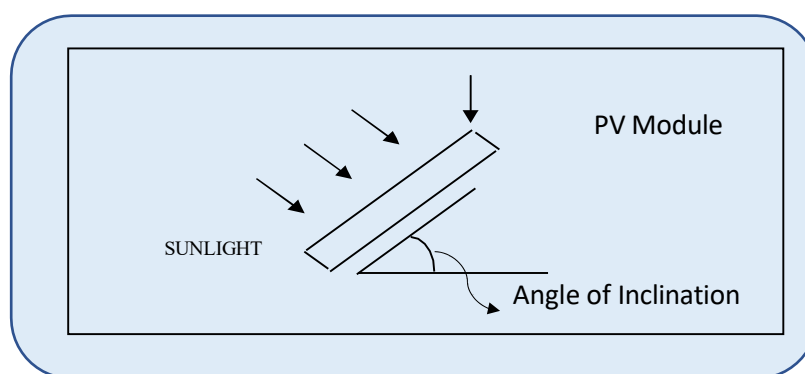

Fig. 6.1 Tilt angle
- C. Installation inclination refers to the Angle between the solar photovoltaic module and the ground plane, as shown in **Figure 6.1**.